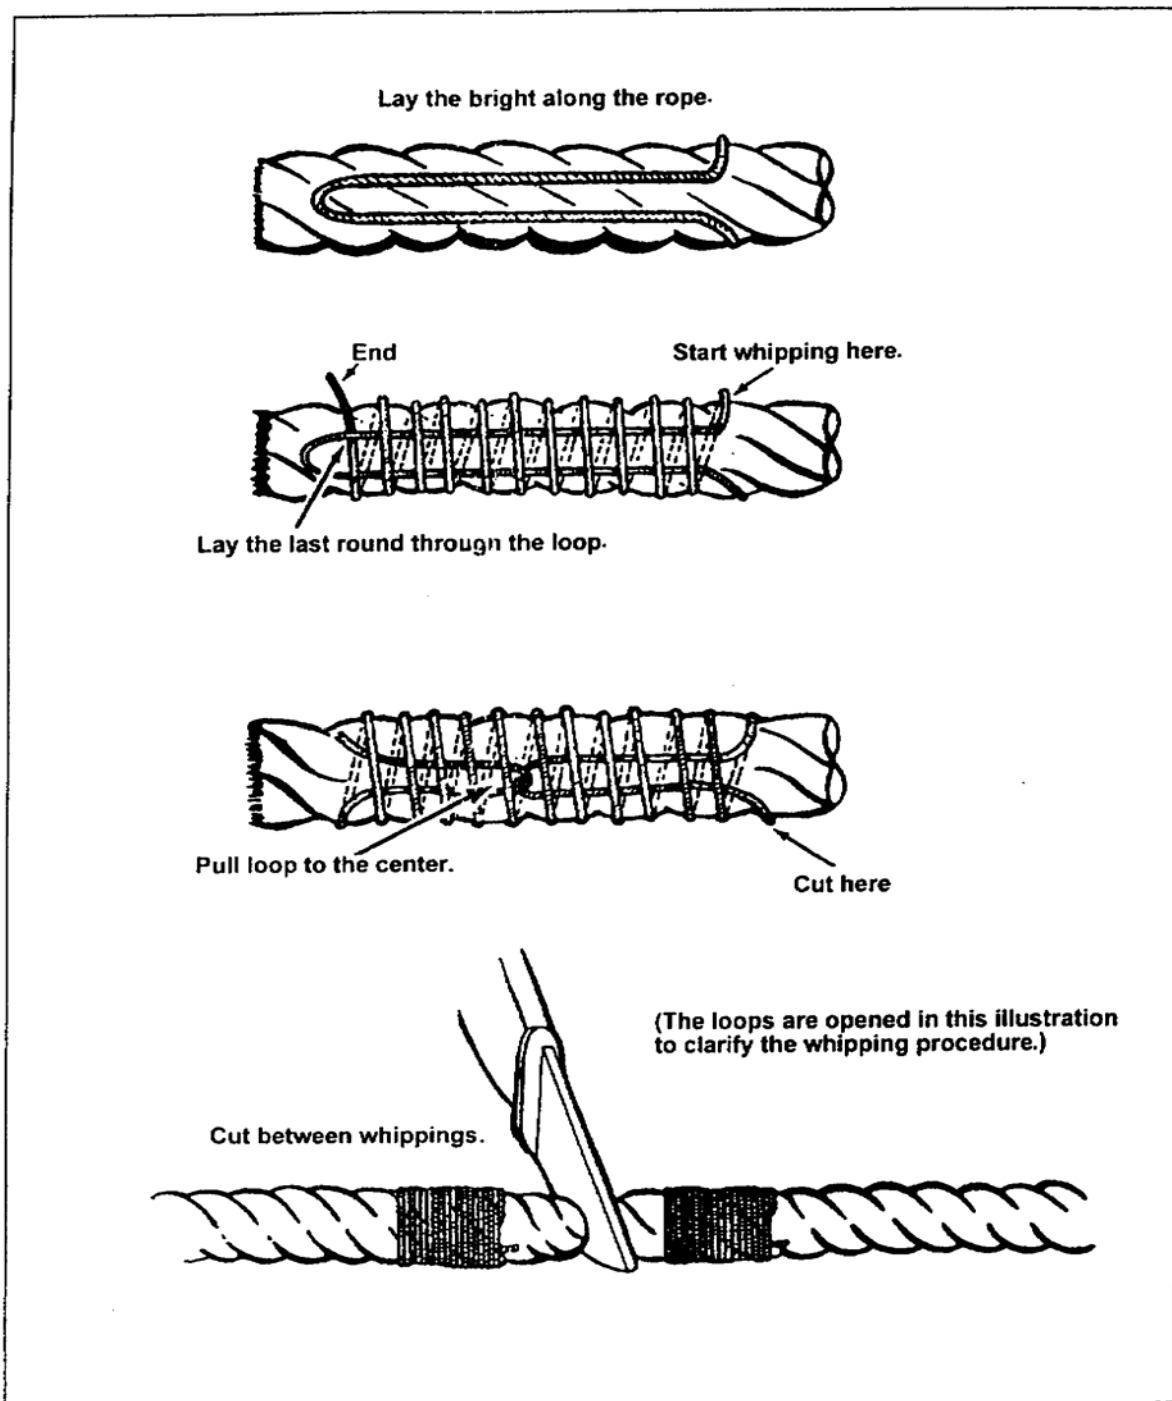

Figure 4-32. Whipping the end of a rope
k. Whipping. The raw, cut end of a rope has a tendency to untwist and should always be knotted or fastened in some manner to prevent this untwisting. Whipping (Figure 4-32, page 4-24) is one method of fastening the rope end to prevent untwisting. The rope is whipped by wrapping the end tightly with a small cord. This method is particularly satisfactory because there is very little increase in the size of the rope. The whipped rope end will still thread through blocks or other openings. Before cutting the rope, place two whippings on the rope 1 to 2 inches apart and make the cut between the whippings. This will prevent the cut ends from untwisting immediately after they are cut.